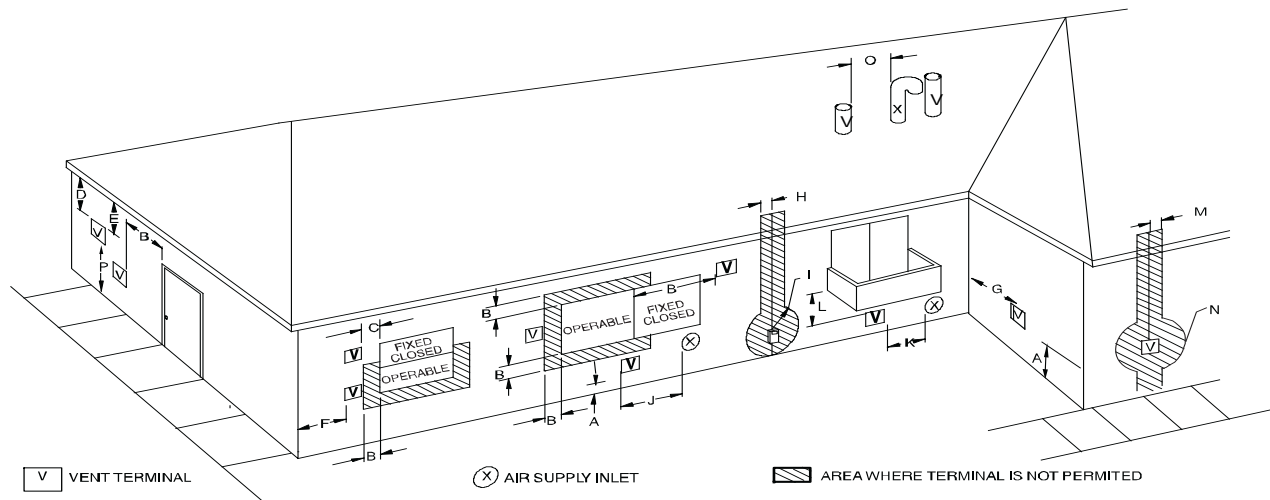

Fig. 44 – Direct Vent Termination Clearance
In a direct-vent (2-pipe) system, all air for combustion is taken directly from outdoor atmosphere, and all flue products are discharged to outdoor atmosphere. Combustion-air and vent pipes must terminate together in the same atmospheric pressure zone, either through the roof (preferred) or a sidewall. See Fig. 44 for references to clearances required by National code authorities.
For vent termination clearance, references to National codes are shown in Fig. 44 for Direct Vent/2-Pipe system and Fig. 45 for Ventilated Combustion Air/Non-direct Vent/1-Pipe system. For exterior termination arrangements, refer to Fig. 41 for Direct Vent/2-Pipe system and Fig. 42 for Ventilated Combustion Air/Non-Direct/1-Pipe system. Contact Local code authorities for other requirements to and/or exemptions from the National codes shown in the figures.
1. Comply with all clearance requirements stated in Fig. 44 or Fig. 45 per application.
Direct vent (2-pipe) vent and combustion air pipes must terminate outside the structure. See Fig. 44 For references to vent clearances required by National code authorities. Allowable vent and combustion air terminations are shown in Fig. 41.